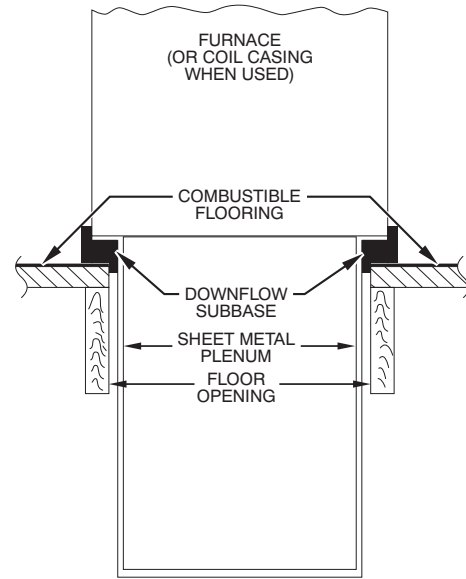

Fig. 22 - Furnace, Plenum, and Subbase Installed on a Combustible Floor
4. If downflow subbase (KGASB) is used, install as shown in Fig. 22.